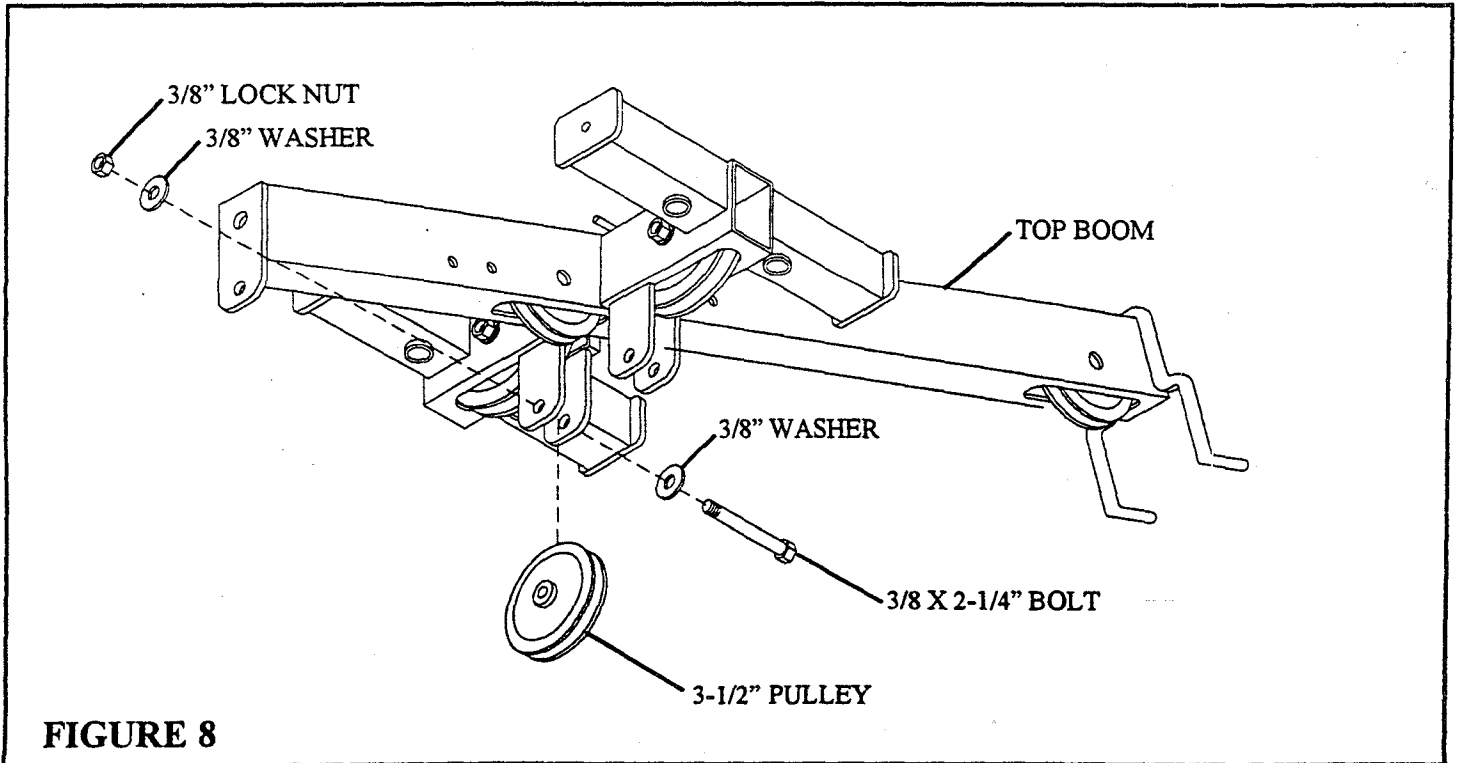

FIGURE 8
- **LOOSELY** assemble the previously removed 3-1/2" PULLEY to the TOP BOOM (17) using the previously removed 3/8 X 2-1/4" BOLT, two 3/8" WASHERS, and one 3/8" LOCK NUT. See FIGURE 8.